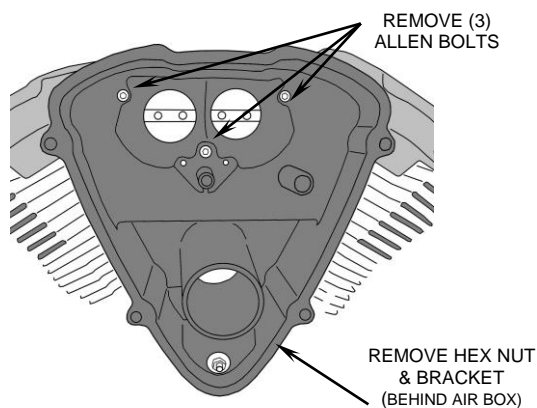

FIGURE 1
1. Remove the (4) bolts that hold on the stock air cleaner cover. Remove chrome cover and filter from air box.
2. Remove the air box by loosening the (3) allen bolts around the air inlet and the (1) M6 hex nut from the lower portion of the air box. See Figure 1. Disconnect the hose from the backside of the air box. Remove the bracket which holds the bolt that secured the M6 hex nut; reinstall bolts after the bracket has been removed.
4. Bolt the velocity stack to the throttle body using the (2) supplied M5 x 16mm allen bolts along the top.